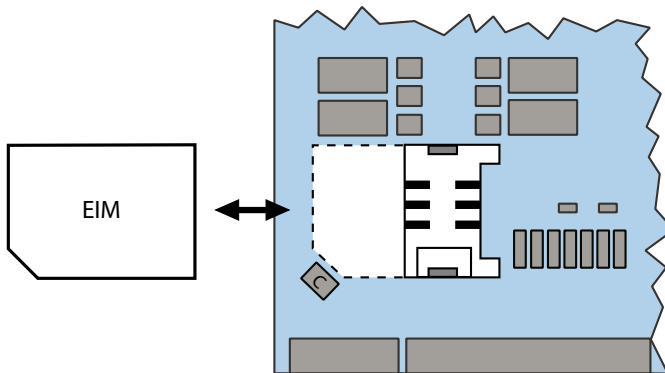

Fig. 80 EIM card
4. Push the new EIM card under the guide tongues and through to the stop in the chip-card holder. Make sure the contacts of the EIM card are facing downwards and the bevelled edge of the EIM card is pointing towards the edge of the call manager card and not against the capacitor (C) (see Fig. 80).